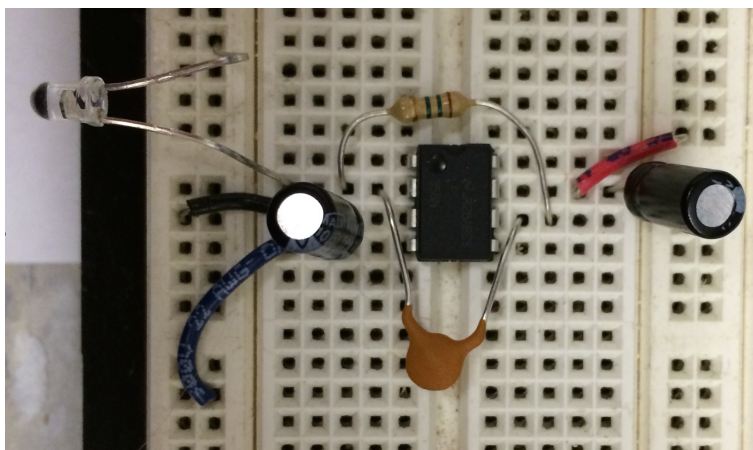

Figure 5: Good placement of op-amp and bypass capacitors on a protoboard. Note that short wires are used for all connections.
2. The op-amp chip sits across a groove in the prototyping board (see Figure 5). Before inserting a chip, ensure the pins are straight (using a needle-nose pliers or something similar). After in-
3. You will have less trouble with spontaneous oscillations if the circuit layout is neat and compact, in particular the feedback path should be as short as possible to reduce unwanted capacitive coupling (see Figure 5). Also, wire around the chip rather than over it.